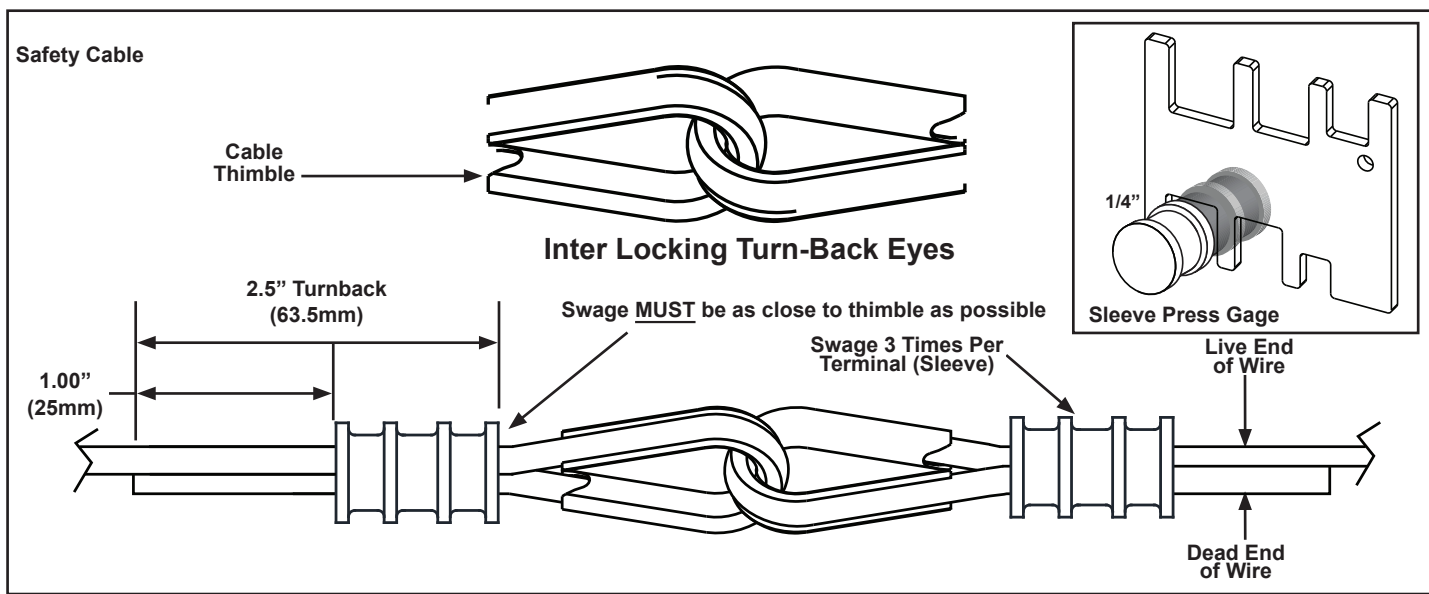

Figure 3-151
The required method of splicing two (2) wire ropes together is to use inter-locking turn-back eyes with thimbles, using recommended number of sleeves on each eye. See Figure 3-151.
Do not overlap cable ends. Use eye method with thimbles. See Figure 3-151.
- Step 1. Slide thimbles together. See Figure 3-151.
- Step 2. Turn back a minimum of 2.5" (63.5 mm) of the 1/4" cable rope on the thimble or loop as shown in Figure 3-151 below.
- Step 3. Assemble components together leaving a minimum of 1.00" (25.4 mm) of the 1/4" cable rope "dead-end" protruding out of the Nicopress sleeves as shown in Figure 3-151.
- Step 4. Using a hand or powered swagger press, press the Nicopress sleeve (3) times.